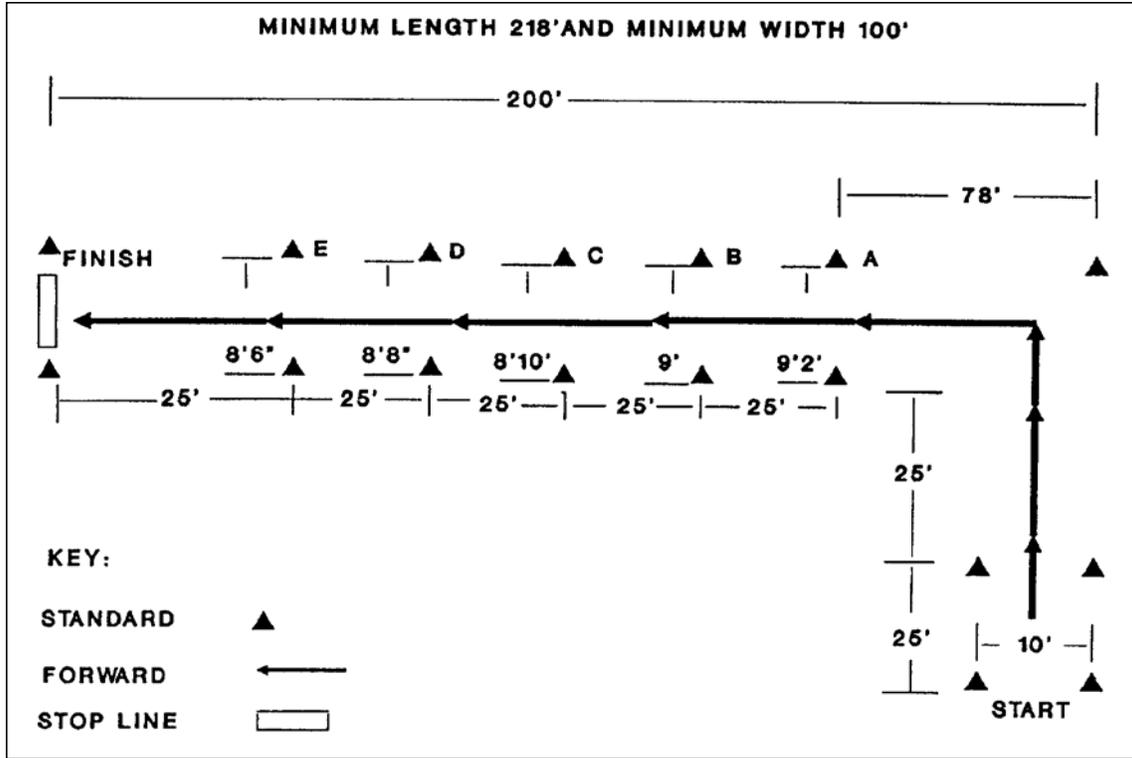

Figure 6-5. Light Vehicle Diminishing Clearance.
- Figure 6-5, light vehicle diminishing clearance.